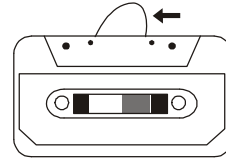

Fig. 1
- Check that there are no loose layers of tape visible through the cassette center window (see Fig. 1). Take up any loose layers, using a pencil or hexagonal barrelled ballpoint pen, before inserting the cassette into the machine (see Fig. 2).